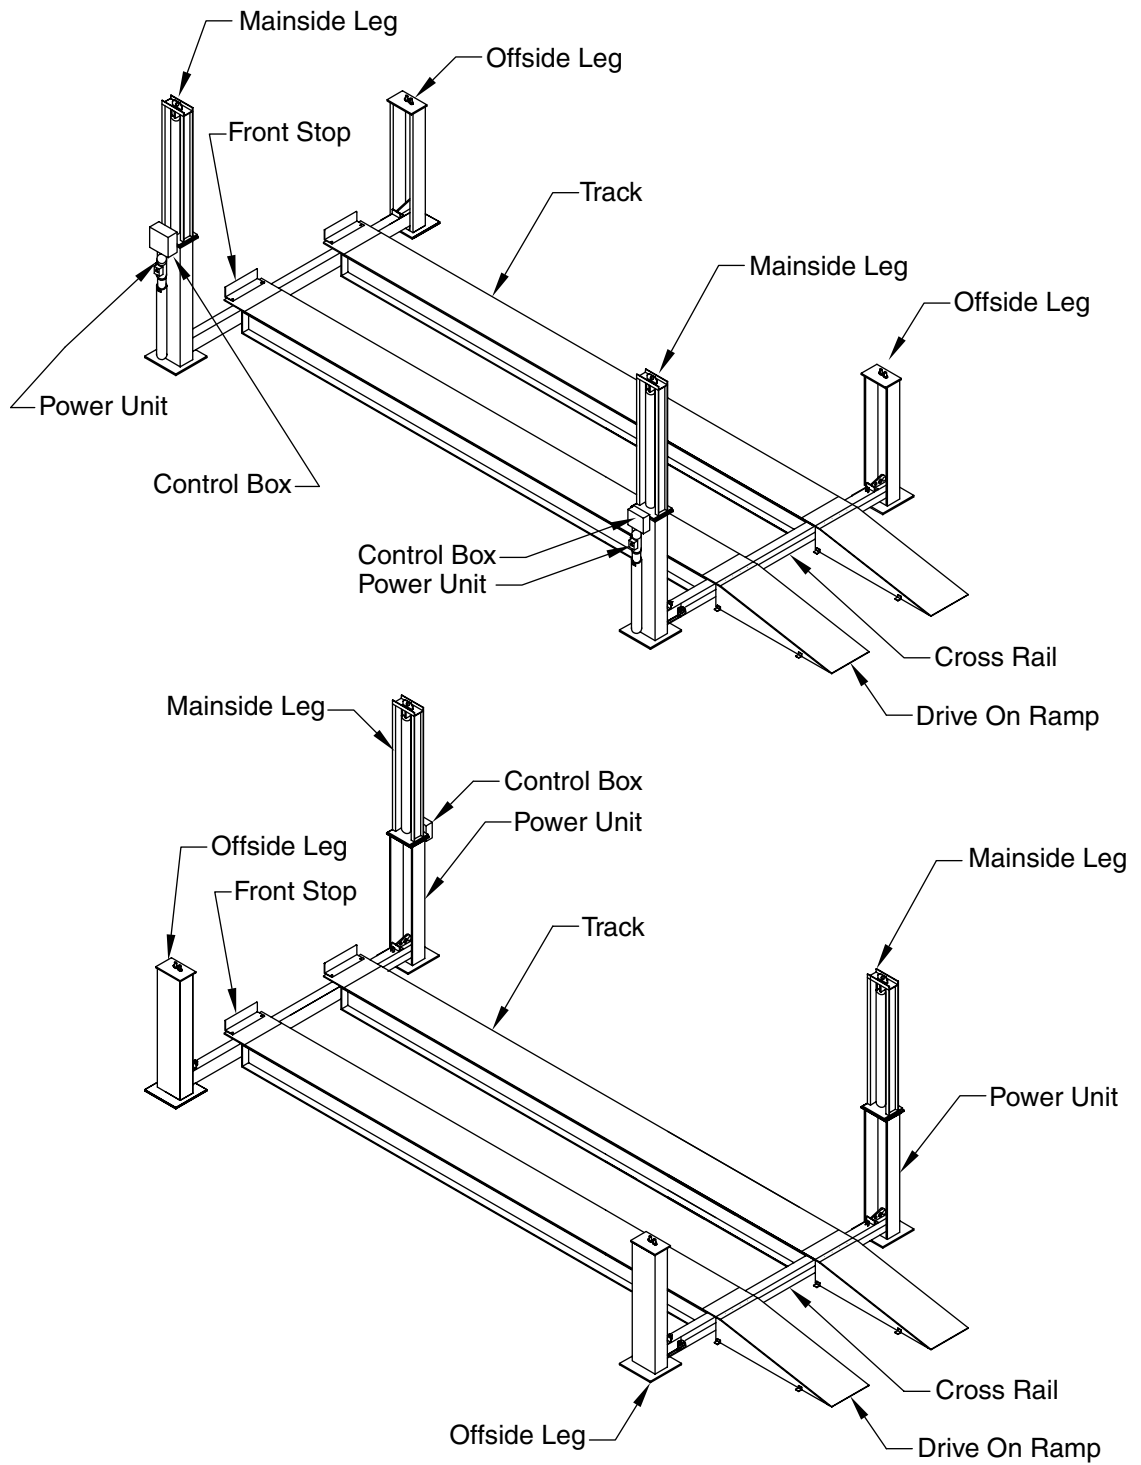
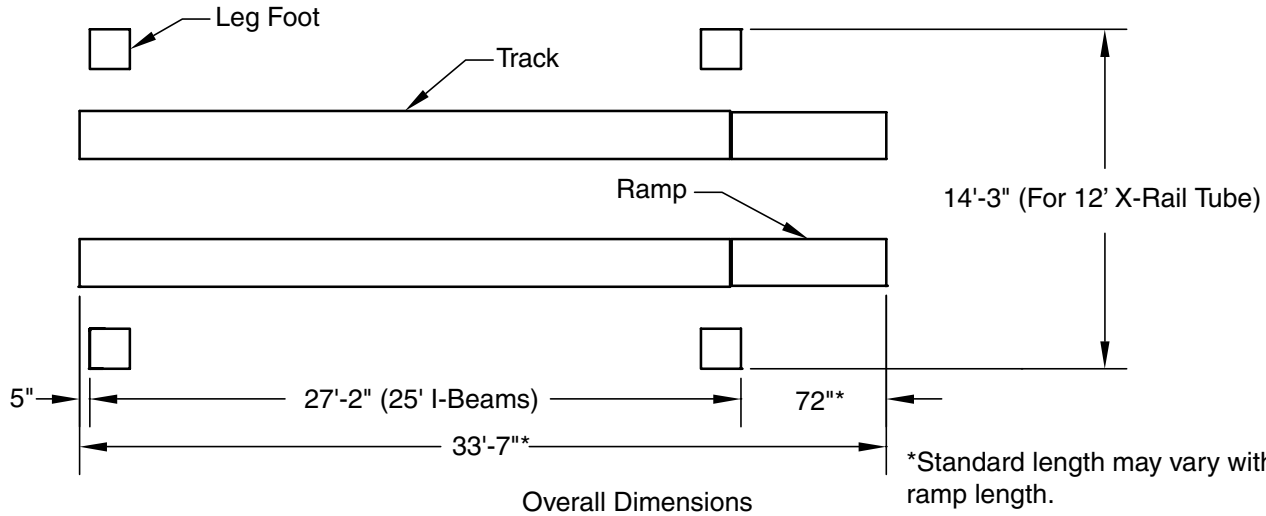
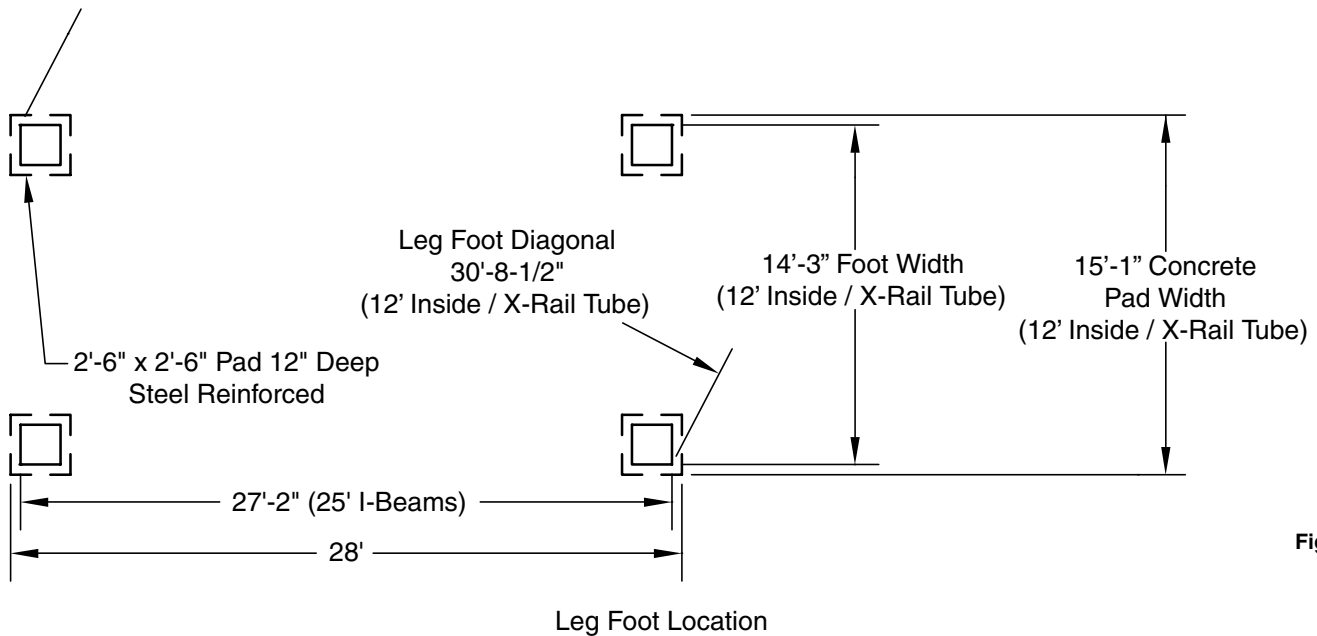

Fig. 1
Fig. 2
Fig. 3
- A. Determine the location for the lift installation. This lift can be used with the main side legs, which hold the cylinders and power units, positioned at either side as shown in Fig. 1. The operator with the controls will stand on the mainside of the lift, between the two legs. For this reason, the mainside of the lift should be positioned away from any walls or obstructions. Fig. 2 gives the overall standard dimensions of the lift, including the drive on ramps. The overall dimensions may vary due to ramp length. The area must be level and there must be free access to load and unload the vehicles. There must be enough overhead clearance to raise vehicles 6 feet above the floor. The floor must be concrete with a minimum thickness of 5 inches and steel reinforced per commercial practice. If pads are used, they must be 2'-6" square with a minimum thickness of 18 inches and steel reinforced per commercial practice. Fig. 3 gives the pad layout dimensions.
- B. Refer to Fig. 3 to get the dimensions for the leg foot locations. Refer to Fig. 2 to determine where to locate the sides and ends of the leg foot rectangle with respect to walls and other obstacles at the installation. Include additional clearance where required near walls and obstacles.
- D. Mark on one of the two parallel lines the Points 1 and 2 to establish the ends of the leg foot rectangle as determined from Figures 2 and 3. From points 1 and 2 measure diagonally to the opposite parallel line to determine points 3 and 4. Draw a chalk line between points 1 and 4 and points 2 and 3. The four lines locate the four outside corners of the leg foot rectangle.
- E. Stand at the end of the rectangle which will be drive on entrance to the lift. As you face the way the vehicles will enter the lift, the side you want the power units on will be the Mainside of the lift. This side will be where the mainside legs, cylinder mounts, and power units will be located. The end opposite you is the front, where the front of the vehicles stop. The end where you are is the back of the lift, where the drive on ramps are installed, Fig. 1.
- F. Position the two mainside and the two offside legs as shown in Figure 1. Make sure that the legs are posi-
- A. Prepare to position crossrails in their approximate locations as shown in Figure 1. The cylinder connector must be at the mainside leg locations. The safety latch release levers must be to the outside of the lift and at the mainside leg side, Fig. 6. **IMPORTANT** At this time check the safety latch linkage on each crossrail for correct operation. Pull the lever down until it locks, Fig. 6. The latches at the ends of the crossrail will lock in the released position. If the mechanism does not work correctly, check for damage or misalignment and correct. Repeat for both crossrails.
- A. Remove the cover of the electrical control box. If the lift has the mainside legs on the left as shown on the top of Fig. 1, attach the box to the top two holes of the top mounting bracket on the back of the rear main side leg. If the mainside legs are on the right as shown on the bottom of Figure 1, attach the box on the front mainside leg. Use two 5/16" x 1" bolts with two nylon insert nuts. Refer to Fig. 9. Mount the short cabled lowering valve coil on the post of the lowering valve assembly on the power unit below the control box. Secure with the nut on the post. Mount the long cabled lowering valve coil to the valve assembly on the power unit on the front mainside leg. Replace the cover.